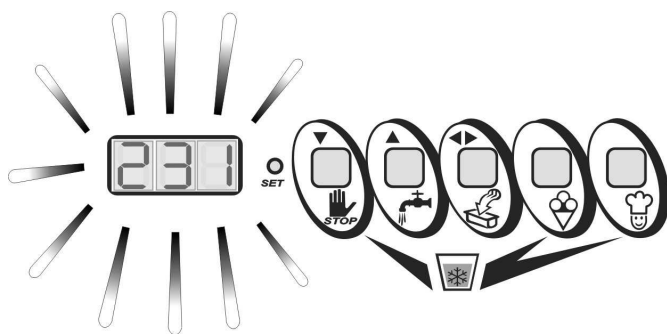

Fig.4
- After a few minutes and once the best possible compromise between batch freezing time and consistency has been reached, depending on the type and amount of mixture introduced, an intermittent acoustic signal warns the operator that it is possible to extract the ice cream (Fig. 4). If this should not be immediately possible, the machine will automatically see to maintain the ice cream over time without changing its consistency any further.